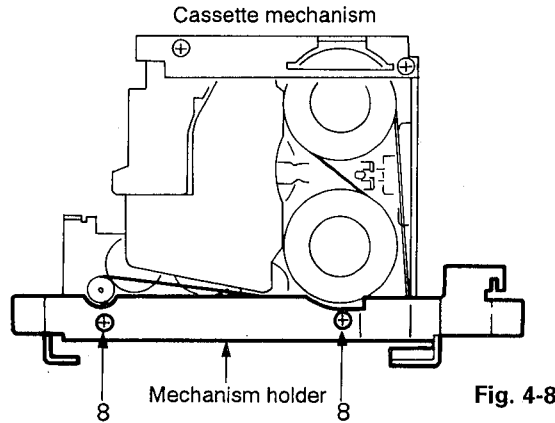
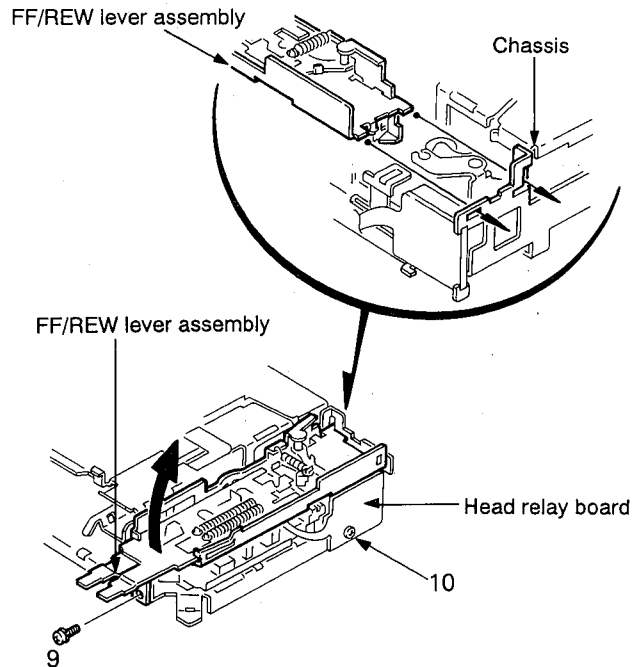

Fig. 4-8
Fig. 4-9
■ **FF/REW lever assembly** (Figs. 4-8, 4-9)
2. Remove two screws (8) retaining the mechanism holder from the cassette mechanism assembly.
3. Remove one screw (9) retaining the FF/REW lever assembly from the cassette mechanism assembly. (See Fig. 4-9.)
4. Lift the FF/REW lever assembly in the arrow direction as shown in Fig. 4-9.
5. Disengage the tip of the FF/REW lever from the cutout portions of the chassis. (See Fig. 4-9.)
■ **PB head** (Figs. 4-9, 4-10)
4. Remove one screw (10) retaining the head relay board from the cassette mechanism assembly.
5. Remove two screws (11) retaining the PB head. When re-assembling, make sure to do it in the order from A, B, C to D and then to adjust the azimuth and height of the head.